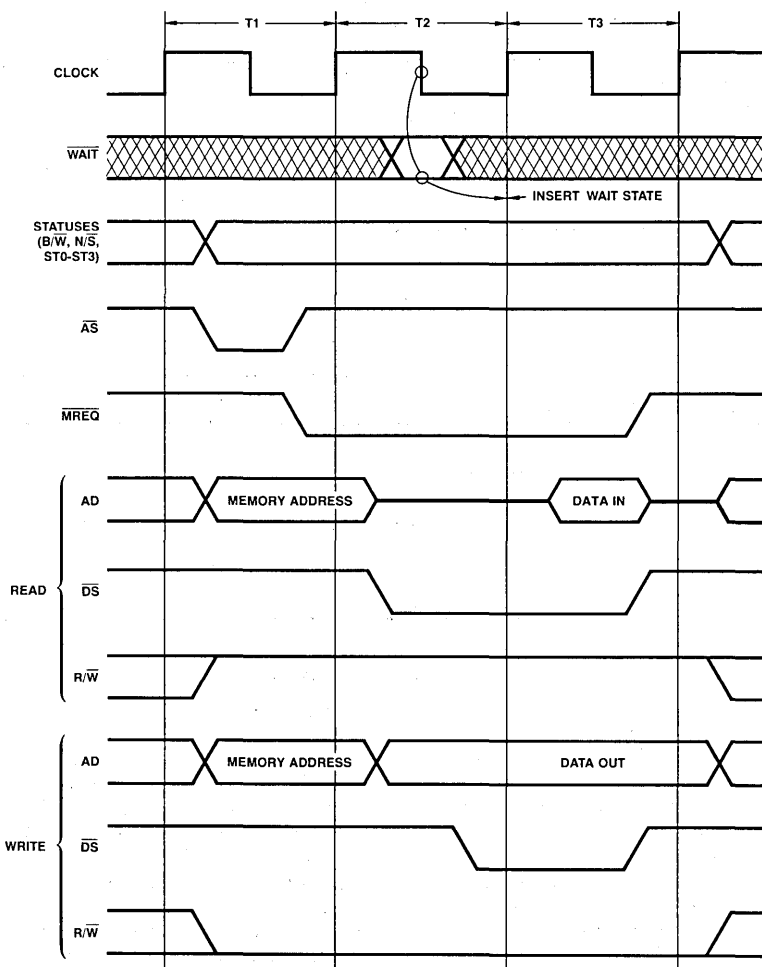

Figure 7. Memory Transactions.
memory address will come from several sources depending on the instruction and the addressing mode. Memory transaction cycle timing is shown in Figure 7. It typically consists of three clock periods T1, T2 and T3. Wait states (TW) can be inserted between T2 and T3 by activating the $\overline{\text{WAIT}}$ input LOW. The $\overline{\text{WAIT}}$ input will be sampled during T2 and during every subsequent TW. The ST0-ST3 outputs will reflect the appropriate code for the current cycle early in T1 and the $\overline{\text{AS}}$ output will be pulsed LOW to mark the beginning of the cycle. The $\overline{\text{N/S}}$ output will indicate whether the normal or system address space will be used for the current cycle. As shown in the figure the $\overline{\text{MREQ}}$ output will go LOW during T1 to indicate a memory operation.